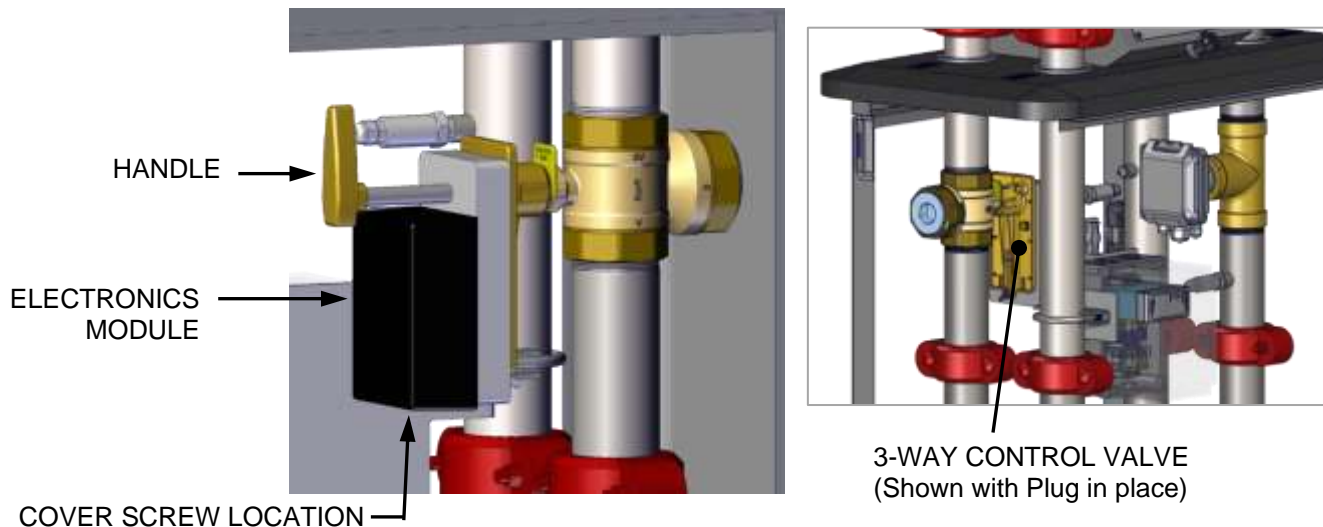

Figure 8.2.2. 3-Way Control Valve
8. Using two (2) pipe wrenches, secure the Control Valve unions to the Boiler Water piping.
9. Refer to Figure 8.2.2.1 and ensure the three (3) DIP switches on the Electronics Module of the replacement Valve are all in the following positions: 1 = ON, 2 = ON, 3 = ON, 4 = OFF.